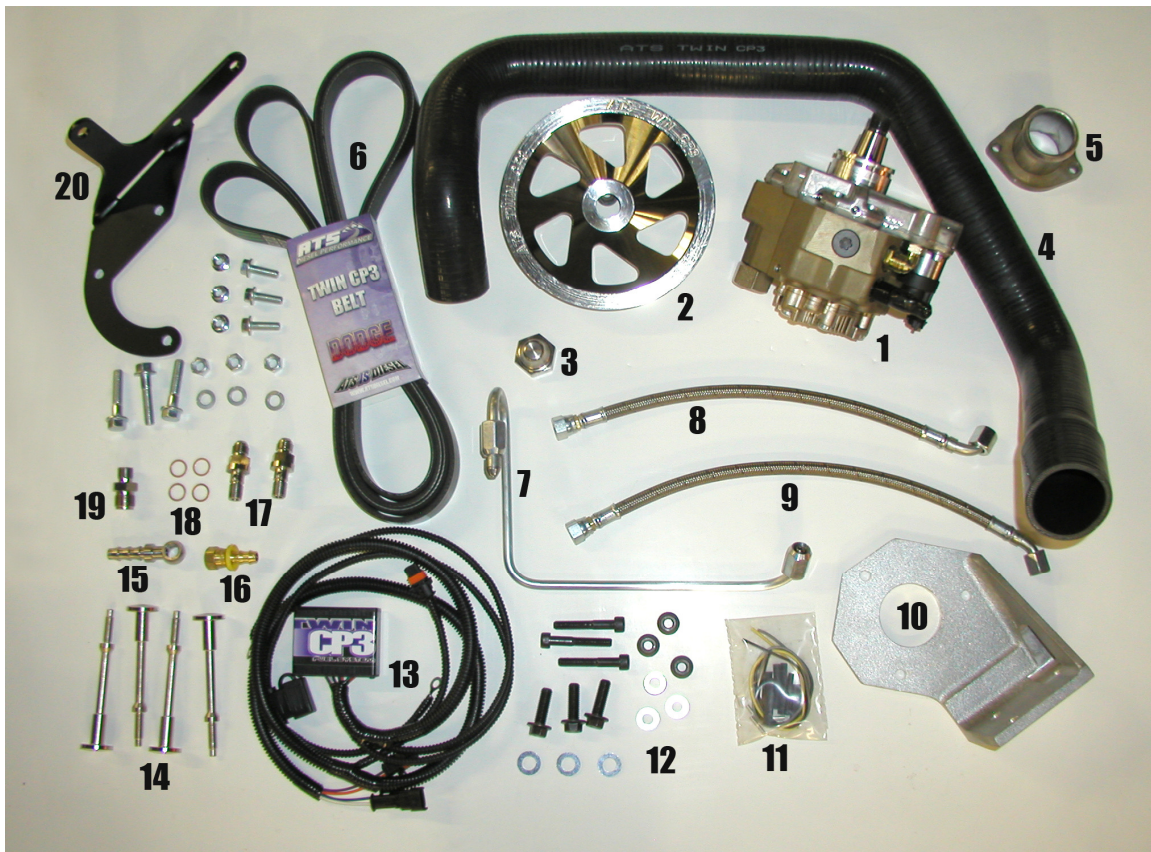
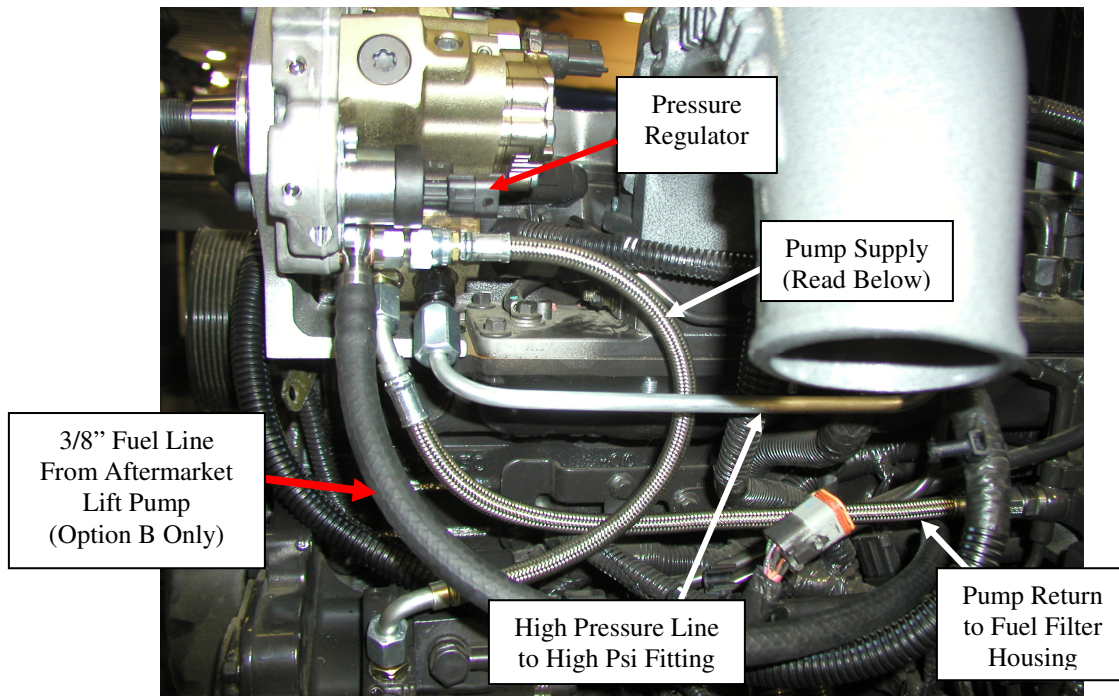
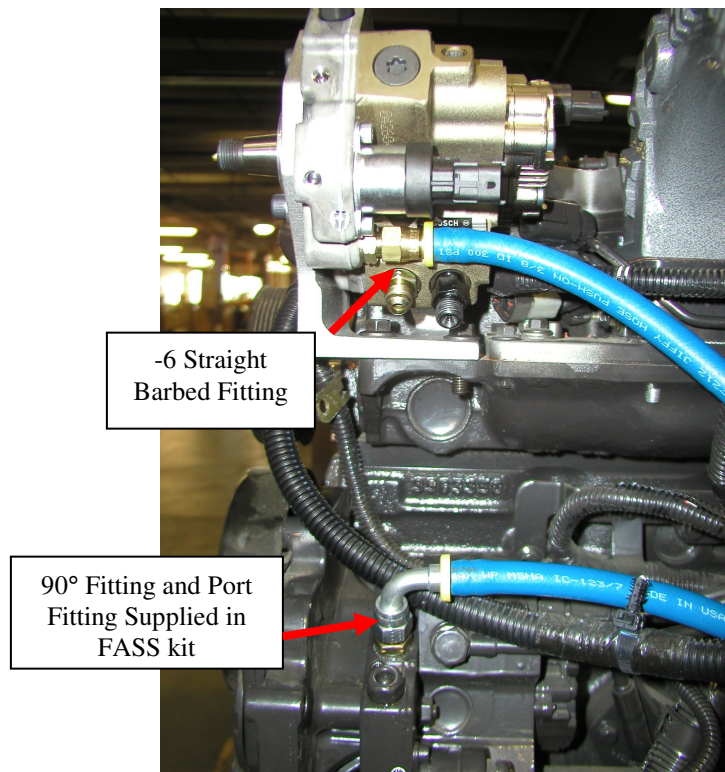

Figure 1: Dodge Twin CP3 Kit Contents
Figure 8: Fuel Lines Installed (Option "B" below)
Figure 13: Twin Lift Pumps Supplying Twin CP3 Pumps
1. Before beginning installation, please check to make sure all of the parts pictured above are inside the Dodge Twin CP3 kit. A complete corresponding list of components can be found on pages 13 and 14. The high-pressure fuel line (#7 Figure 1) will be different than pictured. The
2003-2004.5 Vehicles: The TPS sensor and bracket will have to be removed to make room for the new CP3 pump. The sensor will have to be relocated using the bracket and hardware supplied (#21, Figure 1).
11. If installing the Twin CP3 kit on a 2006 or later vehicle, the valve cover bolts will have to be replaced with the four button head bolts provided in the kit, (#14 Figure 1). The factory valve cover bolts will wear a hole in the ATS radiator hose.
16. Install the ATS high pressure fitting (#19, Figure 1) into the open port in the fuel rail. Note: apply a small amount of grease (polylube or transjel) to the sealing surface on the bottom of the high pressure fitting prior to installation.
17. Install the high-pressure steel fuel line (#7, Figure 1) from black fitting on the pump to the new fitting that replaced the pressure switch in the rail.
19. Install the 14" steel braided -6 line from the pump return to the new banjo fitting, Figure 8.
A6. Connect the 11.5 inch –6 steel-braided line from the ATS 12mm banjo / JIC-6 fitting to the supply port located next to the pressure regulator on the second pump as shown in Figure 8.
B4. Install the 11.5" supply line (#8 Figure 1) from the M12 to -6 fitting to the supply on the factory pump as shown in Figure 8.
C1. If two FASS or equivalent aftermarket lift pumps will be supplying the CP3 pumps, then connect the supply lines from the lift pump directly to each CP3 supply port using the hardware supplied with the lift pump kits as shown in Figure 13. The ATS Dodge Twin CP3 kit includes one –6 female barbed fitting (#16 Figure 1) for option C.